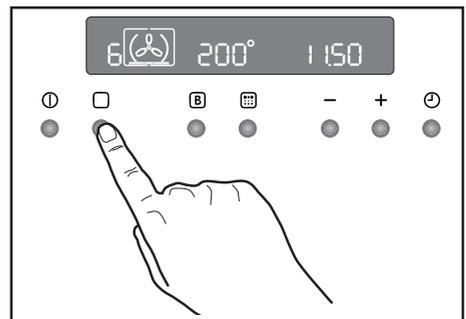

Fig. 5
2) Press button **0** to select the required oven function. Each time button **0** is pressed, a cooking symbol will appear in the display and the corresponding cooking function number will appear to the left of the currently selected cooking function symbol (Fig. 5).